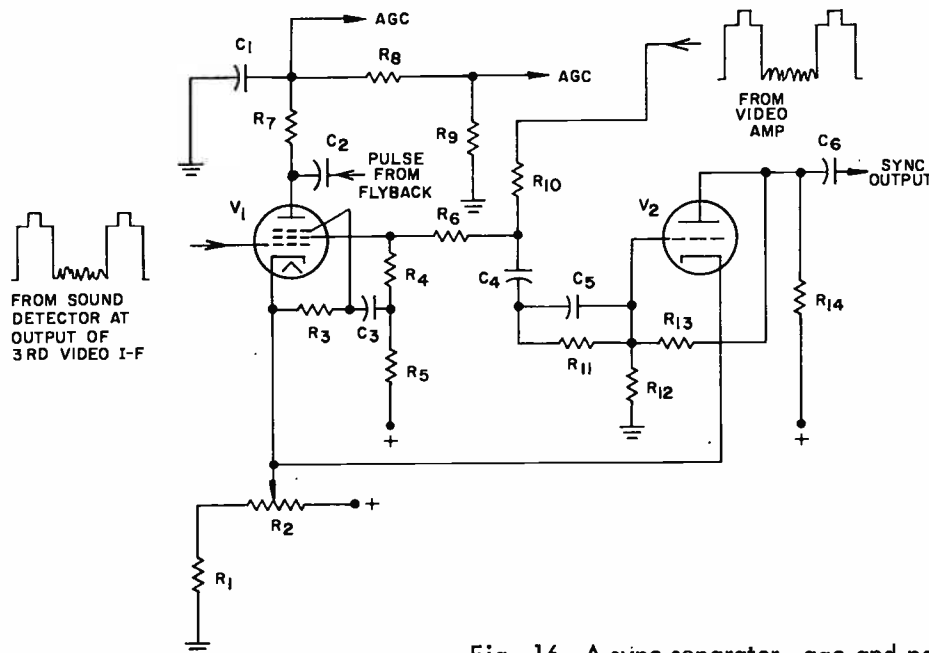

Fig. 16. A sync separator, agc and noise inverter circuit.
A circuit from a color TV receiver, in which one tube performs the dual function of noise inverter and agc, is shown in Fig. 16. In this circuit, V_1 is the keyed agc tube. The tube is operated with a high positive bias on its cathode; the grid is returned to ground through the sound detector circuit. The sound detector is a diode detector coupled to the third video i-f amplifier. This detector not only develops a 4.5-mc sound signal, but also a composite video signal. The detector is connected so that the sync pulses swing in a positive direction as shown in Fig. 16. When the high positive pulse from the flyback transformer is applied to the plate of the tube through C_2 , the plate is driven positive. Since this positive pulse coincides with the sync pulses, the sync pulses overcome the bias on the tube and plate current flows. The amplitude of the plate current will depend on the amplitude of the sync pulses. The plate current flowing through R_7 , R_8 and R_9 to ground develops a negative voltage which is used as agc. The stronger the sync pulses, the greater the agc. So far this stage is operating like any other keyed agc stage.
- (u) On what does the agc voltage developed by V_1 in Fig. 16 depend?
- (v) When a noise pulse occurring between the sync pulses causes V_1 in Fig. 16 to conduct, to what element do the electrons flow?